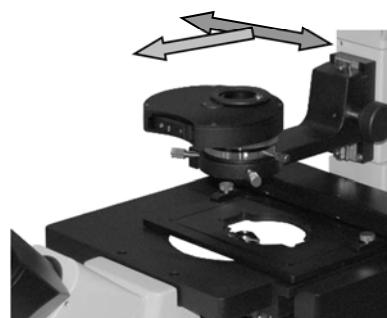

Fig.3
- (1) Unpack this unit, take out the main frame body 1 and place it on a stable work bench, and remove the supporting package and the dust cap (bag).
- (2) Take out the dust cap of eyepiece tube, then install the eyepiece tube into the holder of the frame 8.
- (3) Take out the phase contrast condenser 5. Install the condenser into the condenser holder 4. If has a turntable phase contrast condenser, turn the turntable so that it faces the main frame body, and then tighten the screw. If has a puller-type phase contrast condenser, the puller shall be horizontal. As shown in Fig. 3.
- (4) Take out 2 pcs eyepieces 6 and insert them into the eyepiece tube, and turn the eyepieces so that they fits the eyepiece tube well.
- (5) If need not use the stage moving device, loosen the screw and take down the stage moving device. Put the circle glass plate 2 in the circle trough of the stage.
- (6) If need use the stage moving device, take out the culture dish holder 3 (when the culture dish holder is used to carry a specimen or observe tissue in the culture dish), put the desired specification culture dish holder flatly in the stage moving device rack.
- (7) Connect the power cord to the power supply socket of the body.
- (8) Check if the above installation is secure and safe.
- (9) Inspect and gather the accessories and tools enclosed in the package and keep them in a safe place to avoid misplacement.